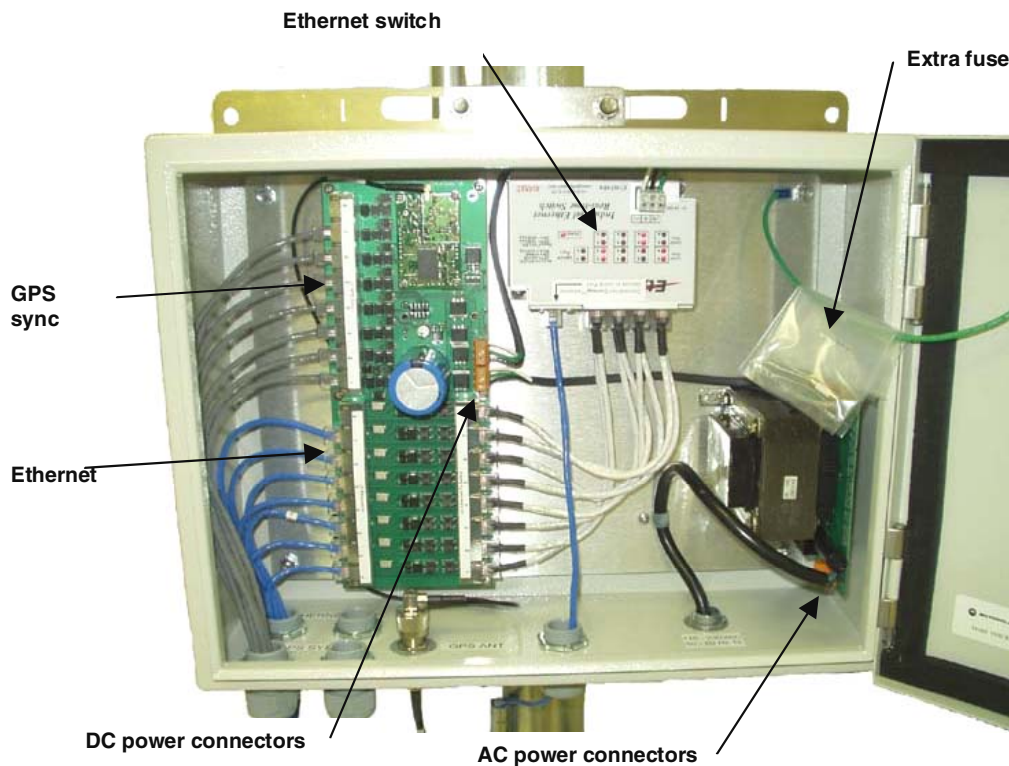

Figure 125: Cyclone CMM2, front view
8. Connect the Ethernet cable from the first AP or BH to the **Port 1** in the J3 ports in the CMM2. This port is the *master* Ethernet port for the CMM2 and should be connected first in all cases. Figure 125 on Page 344 is a photograph of a properly wired CMM2.
11. Connect the GPS sync cable from the first AP or BH to the **Port 1** in the J1 ports in the CMM2. See Figure 125 on Page 344.